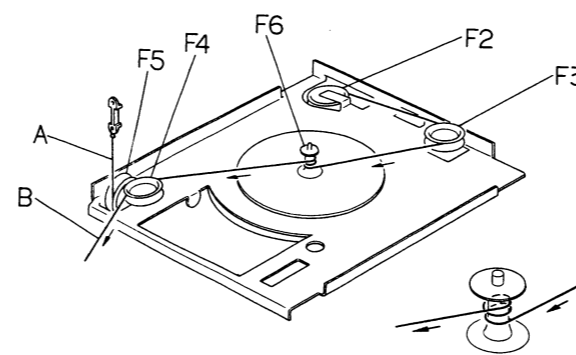

Fig. 5.5
(6) Refer to Fig. 5.5. After sending along via F2 and F3, wind the thread B around F6 (center shaft) 2 times upwardly, then pass B along via F4.